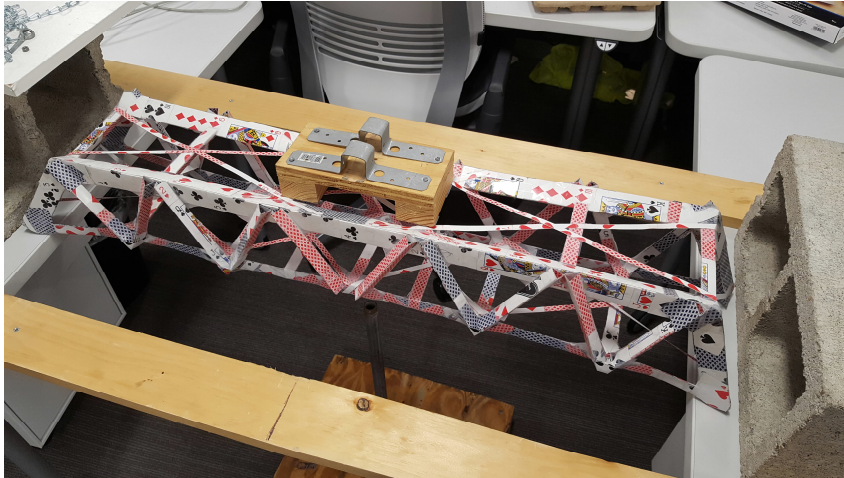

Figure 3b:
- If the roadway goes through the bridge (like a through truss or through arch), the scale truck shall fit along the length of the roadway, and the loading apparatus bars shall extend out the sides of the truck (See figures 3B and 3C).